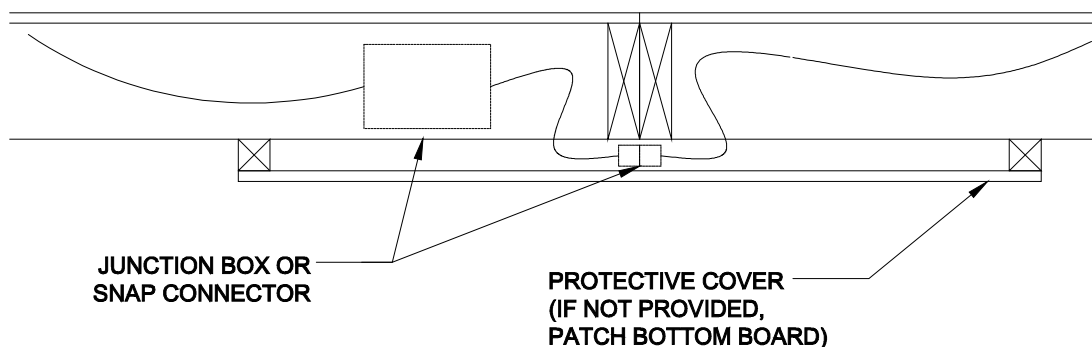

Figure 39. Floor electrical crossover wires with bumped-out access panel
2. **Route wires.** Pass the wires through predrilled holes or notches in the rim joist or if there is a single bumped-out access panel as in **Figure 39**, then connect under the rim joists.
2. **Connect wires.** If wire is coiled inside one junction box, insert it into flexible conduit and pass it under the rim joists to the opposing box and make the connection as described above. If no coiled wire is provided, install conduit with wire making connections in both boxes (**Figure 39**).